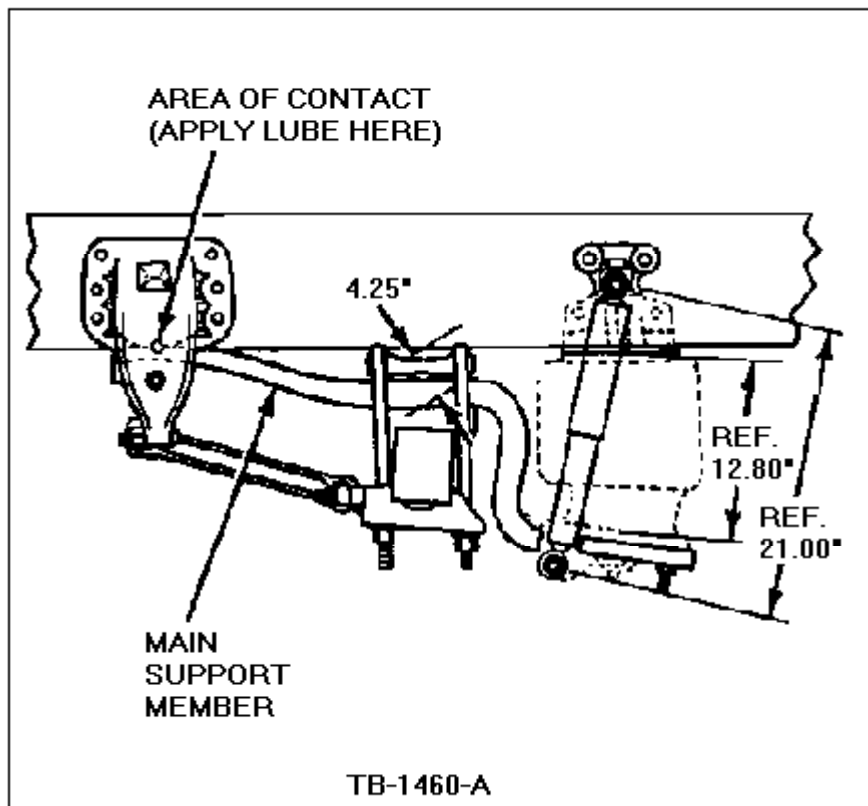

Figure 2 - Article 90-5-11
- c. Turn the free end of the extension arm until the correct measurements shown in Figure 2 are obtained at each of the four axle attachment points.
THE FUNDAMENTAL DIMENSION IS THE 4.25" (108 mm) MEASURED FROM THE BOTTOM OF THE FRAME TO THE BOTTOM OF THE MAIN SUPPORT MEMBER. THE AIR BAG MEASUREMENT OF 12.8" (325 mm) AND THE SHOCK ABSORBER MEASUREMENT OF 21" (533 mm) MAY VARY SLIGHTLY FROM THESE MEASUREMENTS WHICH ARE ALSO SHOWN IN FIGURE 2.